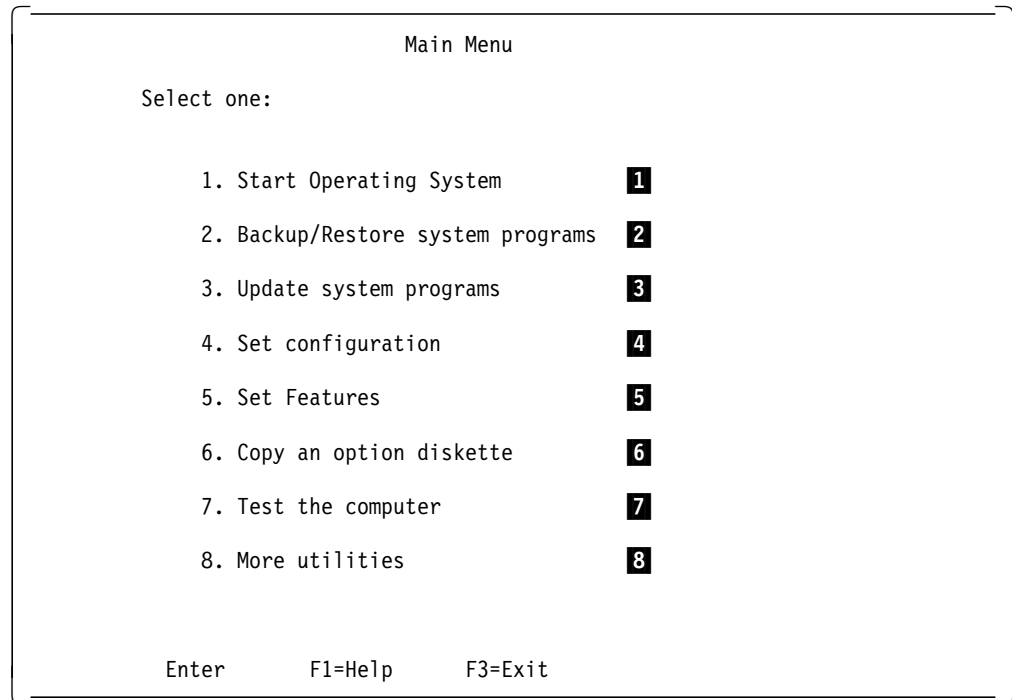

Figure 12. System Programs - Main Menu
4. When the F1 prompt appears, press F1. A second IBM logo panel appears, followed by the system programs Main Menu. The Main Menu is shown in Figure 12 on page 19.
After a few moments, the system programs Main Menu appears. It will look similar to the one in Figure 12 on page 19.
Regardless of whether you started the system programs by booting from the system partition or from the reference diskette, the main menu similar to Figure 12 will be displayed.